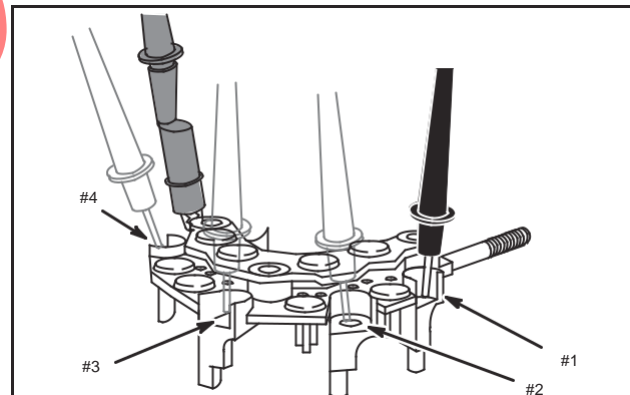

Fig. 36 – Check Rectifier
4. Attach RED test lead to one of the three rectifier mounting holes, Fig. 36. Leave attached through Step 6.
5. Contact #1 terminal with BLACK meter test lead, Fig. 36.